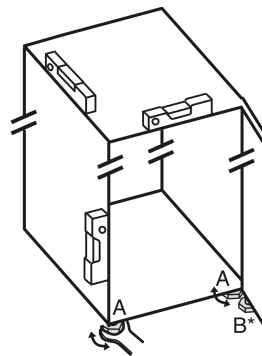

Fig. 19
- ▶ Unscrew the adjustable feet Fig. 19 (A) using the enclosed open-end spanner and a spirit level until the appliance is firmly aligned and level.
- ▶ Unscrew the adjustable foot Fig. 19 (B) on the swap bearing block with the enclosed open-end spanner until it rests on the floor.
- ▶ Turn the adjustable foot Fig. 19 (B) 90° further.